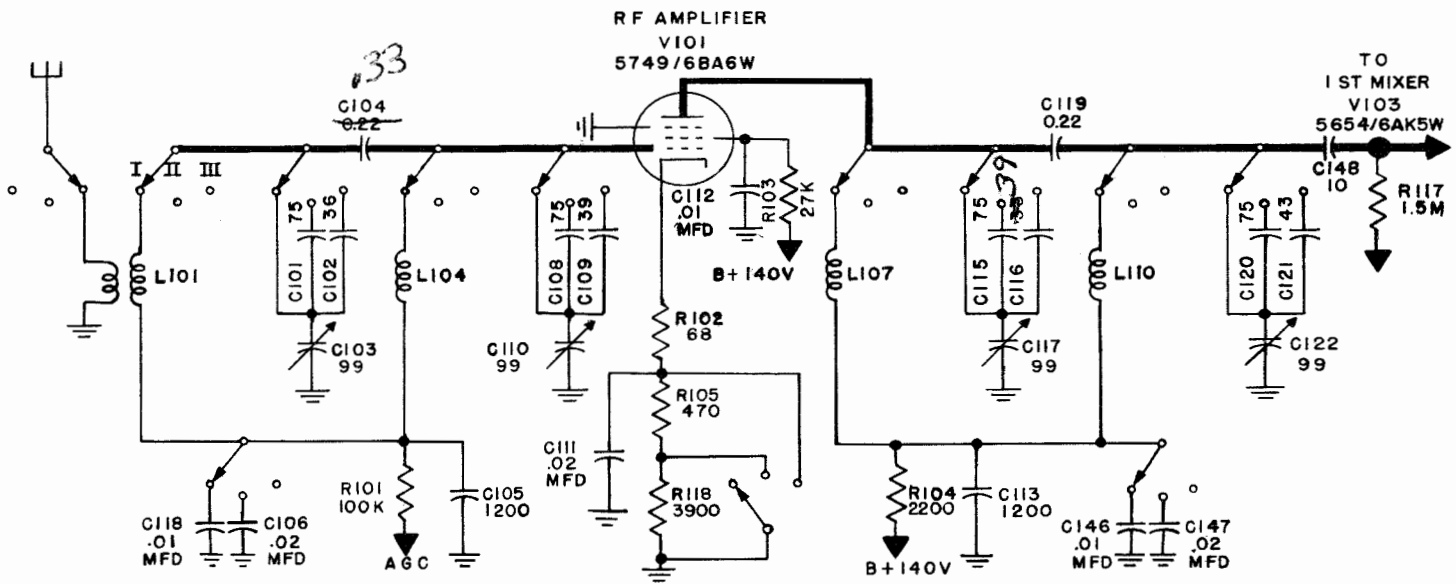

Figure 2-6. Simplified Schematic—RF Amplifier
(1) ANTENNA INPUT.—The antenna input circuit of the AN/FRR-31 is designed for use with 72 ohm coaxial transmission line, such as JAN type RG-11/U or equivalent. The external transmission line connects to the 72 OHM ANTENNA receptacle (J501) located on the rear compartment of the receiver cabinet. The type UG-21B/U connector plug (P501), for the J501 receptacle, is supplied with the receiver for attachment to the antenna transmission line at the time of installation. A short length of coaxial cable, inside the rear filter compartment, connects the antenna line to the receptacle J504, which is mounted to face the inside of the receiver case. As the receiver chassis slides into the case, the J504 receptacle engages its mating connector (J303) which is mounted at the rear of the Audio/Power Supply chassis assembly. A short length of RG-58A/U coaxial cable, with one end permanently connected to the terminals of J302, terminates at the other end in a bayonet locking plug, AN Type UG-88/U (P301). This plug mates with an AN Type UG-290/U receptacle (J102) on the RF chassis assembly. This arrangement permits removal and replacement of any chassis without unsoldering the antenna connections. J102 then connects to the primaries of the Z101 RF coils. The receiver range of 8 to 32 Mc is divided into three equal bands. Band I: 8 to 16 Mc, and Band II: 16 to 24 Mc; and Band III: 24 to 32 Mc; and for simplicity, figure 2-6
(2) RF AMPLIFIER.—As indicated in figure 2-6, the RF amplifier consists of one pentode type 5749/6BA6W tube (V101) and four shielded RF transformers, each of which has three fixed powdered-iron core coils, one for each band. Each transformer assembly also contains an air dielectric variable capacitor which tunes the coil selected. The four tuned circuits between the antenna input and the first mixer assure adequate selectivity for the rejection of undesired signals near the receiver frequency. The individual shielding prevents interaction between circuits. The first RF transformer (Z101) has six windings; three secondaries, one for each band, and three primaries. The primaries are switched for each band. The receiver input impedance is a nominal 72 ohms.